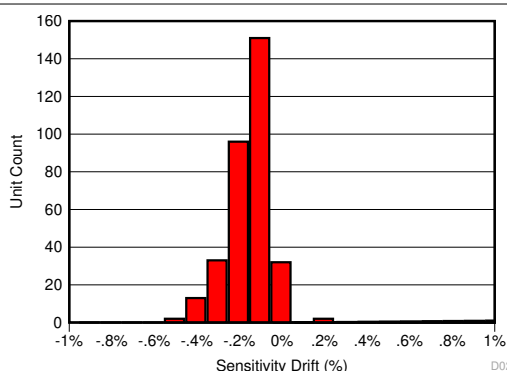
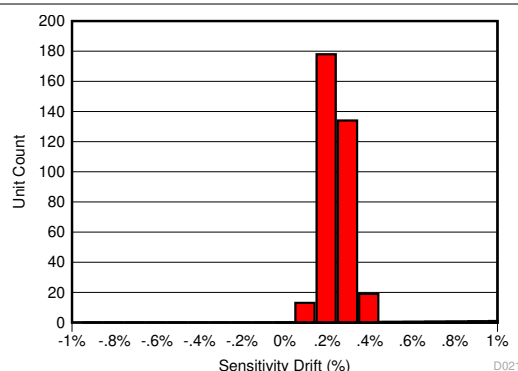
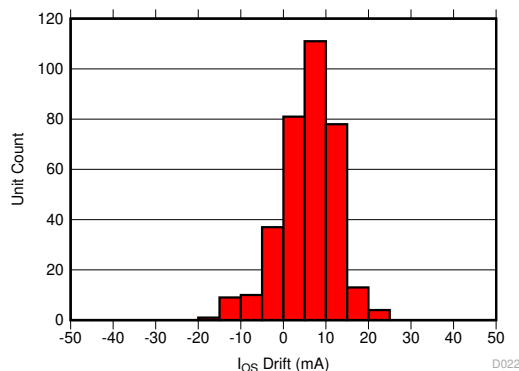

图 9-1. Sensitivity Error After 130°C, 85% RH HAST
图 9-2. Sensitivity Error Drift After AEC-Q100 High Temperature Operating Life Stress Test
图 9-3. Input-Referred Offset Drift After AEC-Q100 High Temperature Operating Life Stress Test
The same compensation techniques utilized in the TMCS1108 to reduce temperature drift also greatly reduce lifetime drift due to aging, stress, and environmental conditions. Typical magnetic sensors suffer from up to 2% to 3% of sensitivity drift due to aging at high operating temperatures. The TMCS1108 has greatly improved lifetime drift, as defined in the Electrical Characteristics table for total sensitivity error measured after the worst-case stress test during a three lot AEC-Q100 qualification. All other stress tests prescribed by an AEC-Q100 qualification caused lower than the specified sensitivity error, and were within the bounds specified within the Electrical Characteristics table. 图 9-1 shows the total sensitivity error after the worst case stress test, a Highly Accelerated Stress Test (HAST) at 130°C and 85% relative humidity (RH), while 图 9-2 and 图 9-3 show the sensitivity and offset error drift after a 1000 hour, 125°C high temperature operating life stress test as specified by AEC-Q100. This test mimics typical device lifetime operation, and shows the likely device performance variation due to aging is vastly improved compared to typical magnetic sensors.